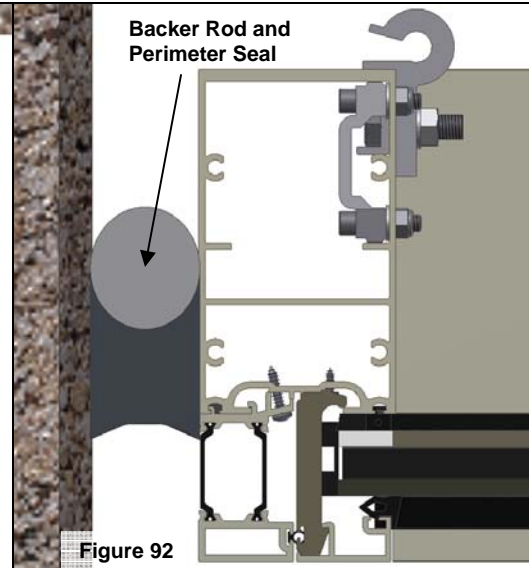
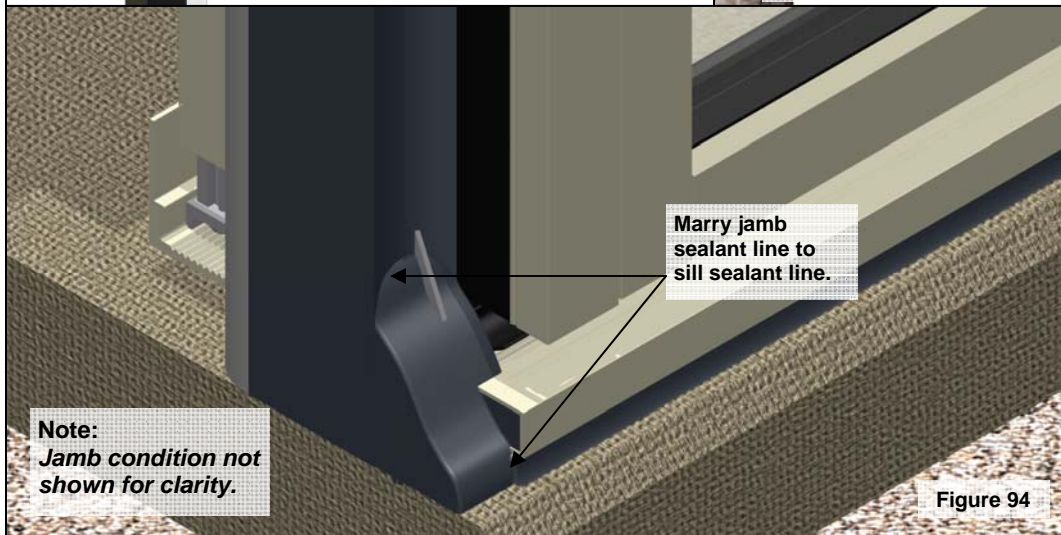

Figure 92
Figure 94
3. The line of sealant at the jamb will follow the front edge of the back member. See Figure 92. Special care is needed to ensure that the end dam is properly sealed and marries into the perimeter sealant correctly at the jamb to sill condition. See Figures 94.